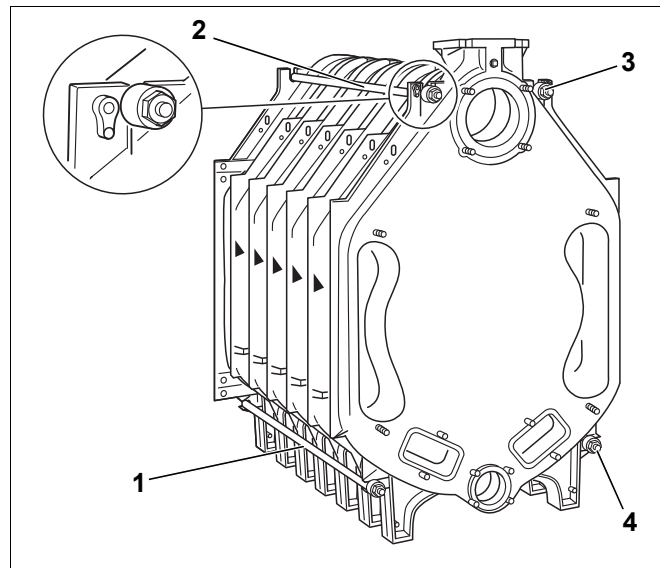

Fig. 22 Install the anchor rods
- Insert the anchor rods with fitted spring kits on the l.h. and r.h. sides, on the top and bottom adjacent to the boiler hubs, into the cast lugs (Fig. 22, [1] to [4]).